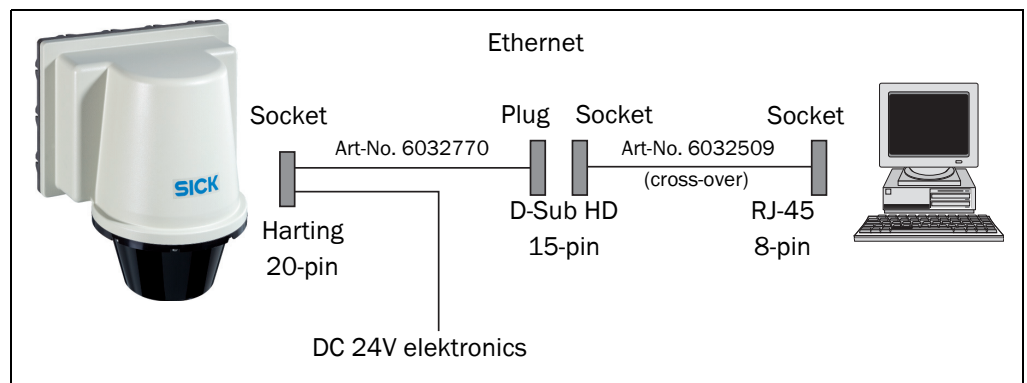

Fig. 37: Ethernet connection
- Connect the PC to the LD-LRS using the Ethernet cable (see fig. 37 on page 53)